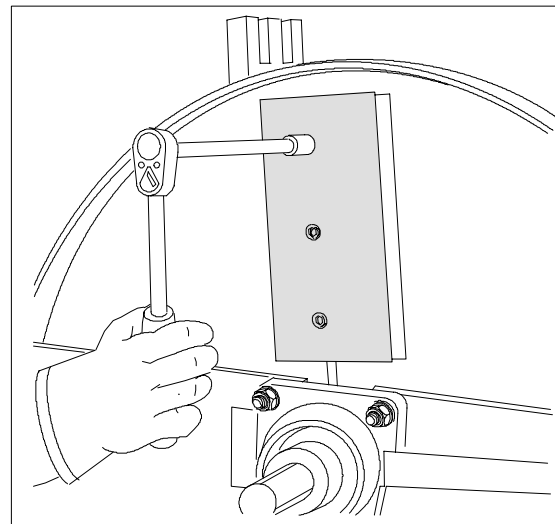

Fig. 18. Removing the knife fastening bolts
2. Remove the knife fastening bolts (M12) with a 10 mm Allen wrench. Turn the wrench in such a way that your hands would not hit the knife if the wrench should slip. Fig. 18.